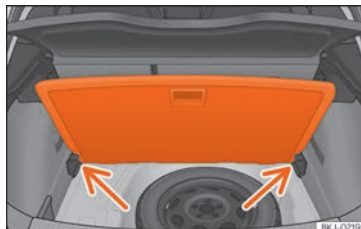

Fig. 129 Variable luggage compartment floor: inclined position.
- Rest the floor on its housings »» Fig. 129 [arrows].